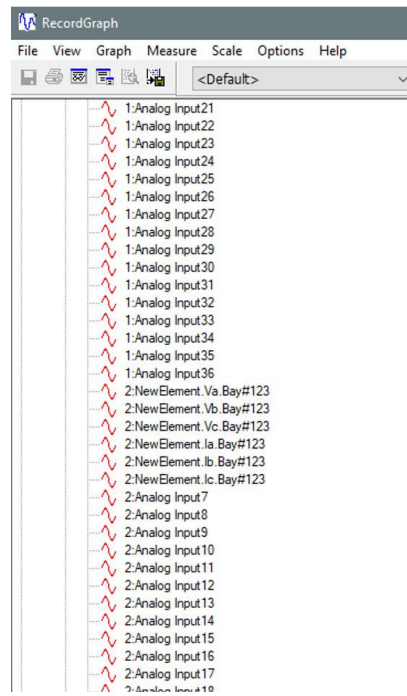

Figure 15.11: Combined record member indices
5. Verify that the opened record includes member indices matching the Record Trigger Group configuration (Figure 15.11).